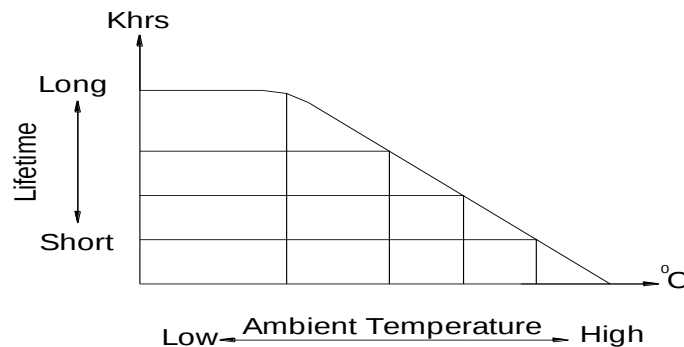

Figure 6.2: Lifetime of the power supply versus ambient temperature
- (1)** High frequency and high efficiency switching technology, improvement of components, and integration with up to date technology can reduce the size of the S.P.S. But, components must also populate the PCB at higher density. The lifetime of components on a S.P.S. will vary significantly due to differences in ambient temperature. When an electrolytic capacitor is used for filtering, its internal chemical reaction will raise the surface temperature. Lifetime of the electrolytic capacitors is sensitive to ambient temperature.
- (2)** In general, the lifetime of the electrolytic capacitors will be reduced by half for every 10 °C increase in the ambient temperature. On the contrary, when temperature goes down 10 °C, it's life time will be doubled. Figure 6.2 describes the relationship between lifetime of the power supply and ambient temperature. If the S.P.S. is continuously operated in high temperature environment, the electrolytic capacitors will enter the "fatigue failure period" earlier while in the mean time the other components are still at the "random failure period". To extend the lifetime of this S.P.S., we need to replace all the electrolytic capacitors.